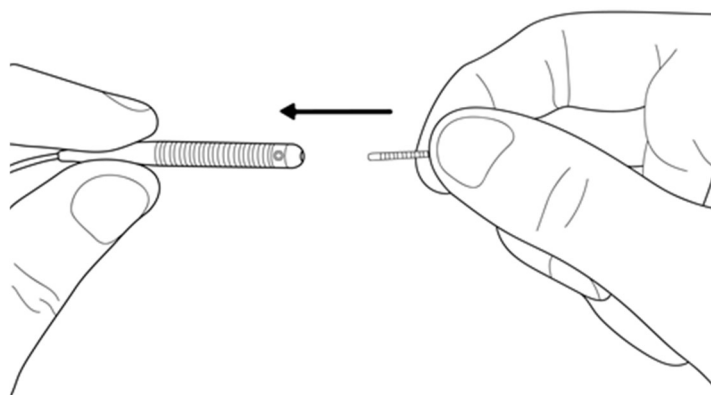

Figure 8.1: Inserting the lead proximal connectors into the lead extension connector block.
2. Insert the lead proximal connectors into the lead extension connector block (refer to Figure 8.1).